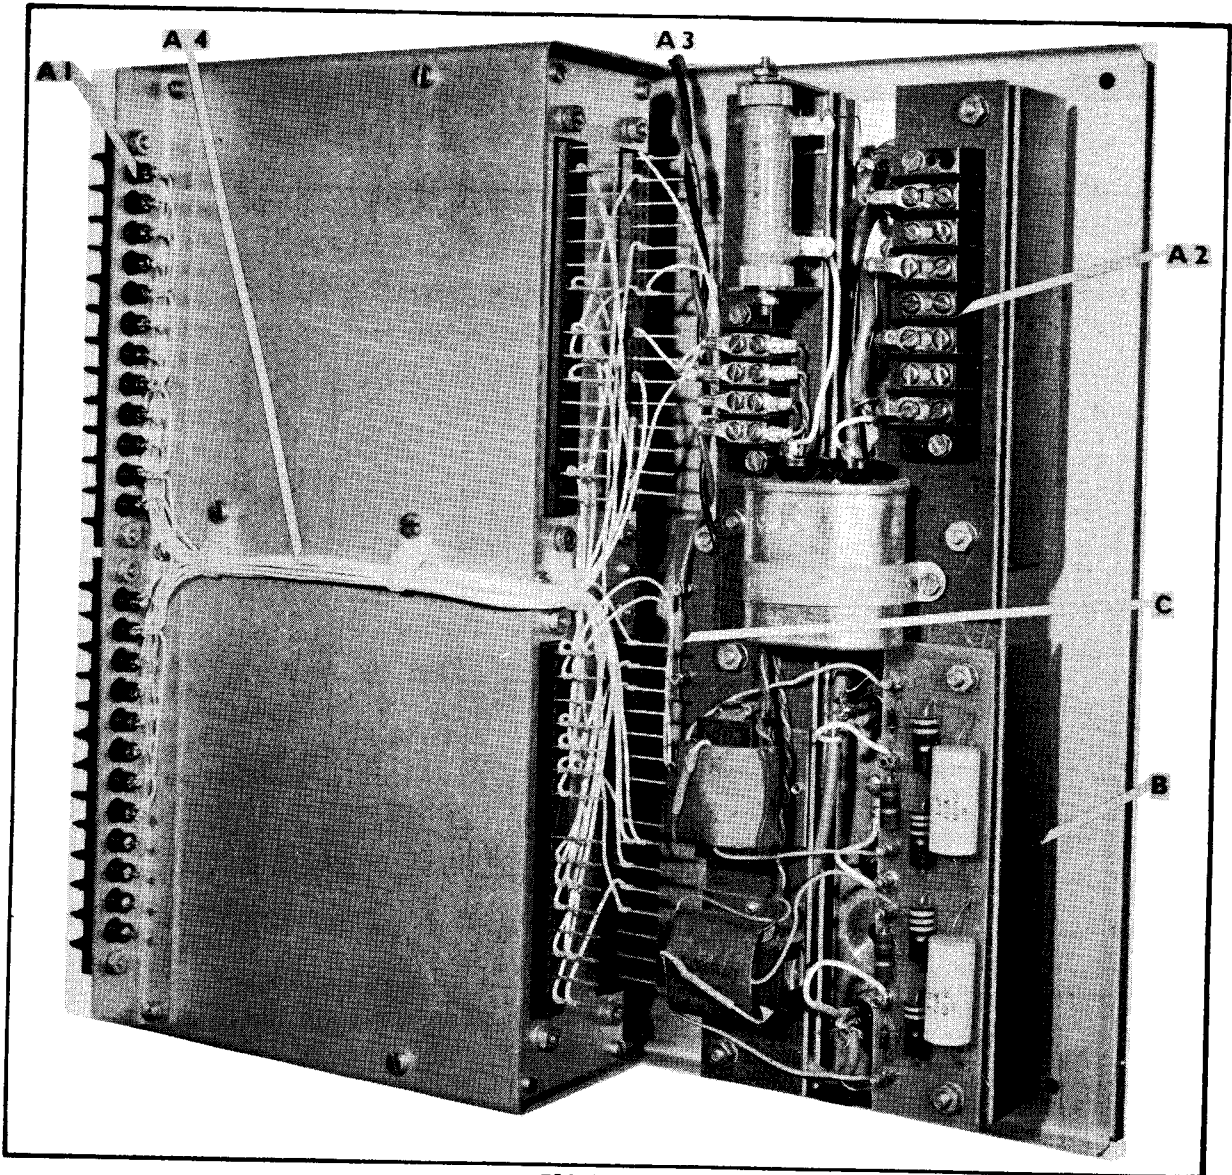

FIGURE 2
In addition to providing support for pc boards, the following equipment is mounted in the rear of the cage assembly, as shown in Figure 2.
- (A) Interconnections
- (B) Thyristor Power Modulator (TPM)
- (C) Resistor Board.
A. Terminal blocks and wiring harnesses are identified by the letter A in Figure 2 and are outlined below: